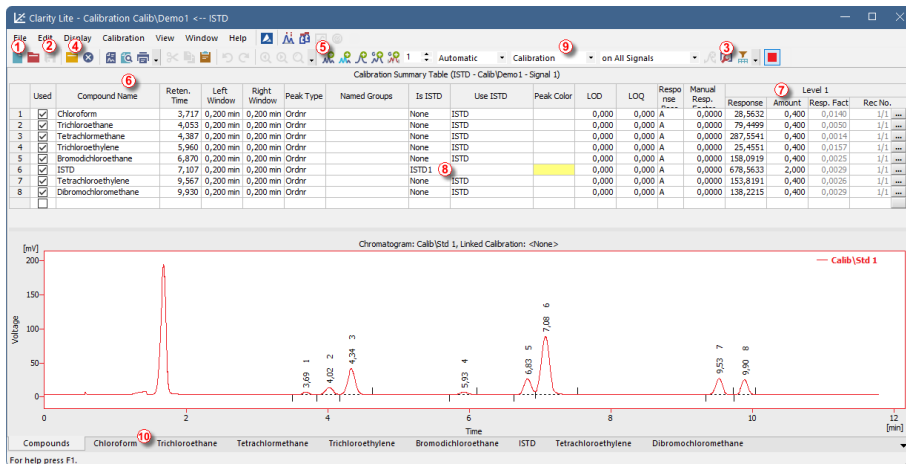

Fig. 12: The Calibration window - loaded standard
- Use the *Open Standard* icon (yellow) (4) to open the *STD 1.PRM* data file. The lower part of the *Calibration* window now displays the chromatogram of the standard.
- Use the *Add All* icon (blue) (5) to add all identified peaks to the Calibration Summary Table. The Table appears in the *Calibration* window, ready to be completed as shown on Fig. 12 on pg. 17.
- As demonstrated in the Calibration Summary Table and the Chromatogram, individual peaks are now identified according to their retention times only. To label the peaks, click and edit the fields in the *Compound Name* column (6) to the names shown on Fig. 12 on pg. 17.
- Fill the *Amount* column (7) with the concentration of the particular compounds. In this standard mixture, all compounds except for the peak number 6 (*ISTD*) have the amount of *0.4*.